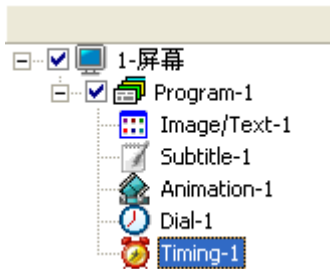

figure 3-20
- ◆ Timing  :click timing button, add new timing area in the current screen, as shown in figure 3-20,set the timing attributes as your require. More details about timing attributes setting ,please check in “4.7 timing attributes”